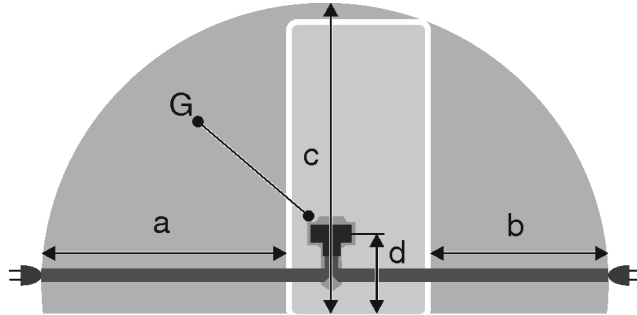

Fig. 26
- The socket is outside the back of the appliance area in the specified area Fig. 26 (a, b, c).
- ▶ Insert the appliance plug Fig. 26 (G) into the back of the appliance. Ensure that it clicks into place.